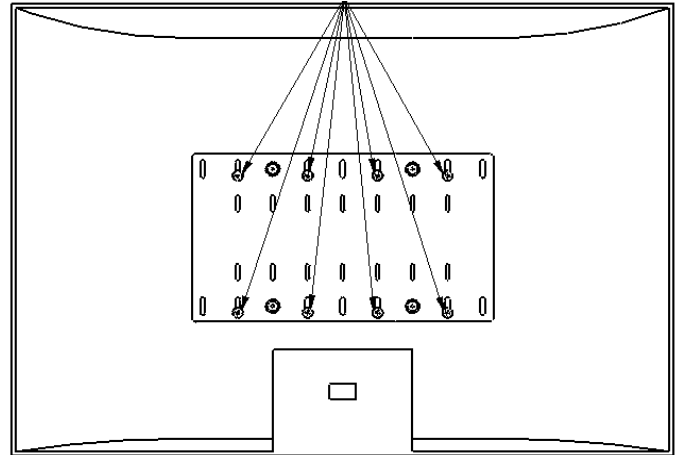

Figure 7. Display with 300mm x 200mm Hole Pattern
2. Attach the MSB-V (10) using the hole-pattern on the back of your display as shown in Figure 7.